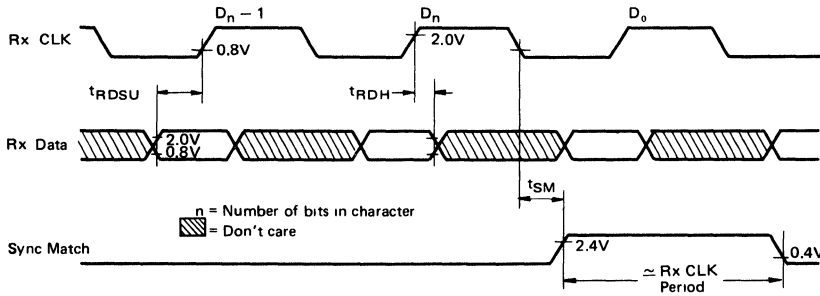

Figure 3 Receive Data Setup and Hold Times and Sync Match Delay Time
- Note: Refer to Figure 3 for the Rx Data setup and hold times.